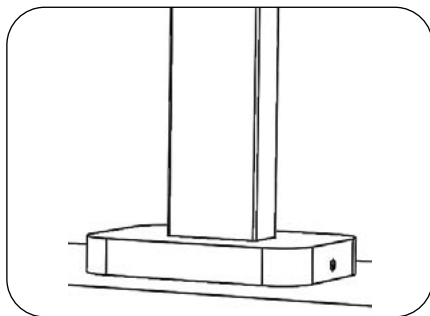

Figure 23
5. Close the cover and attach 3 M3x8 screws to complete the installation of the column (Figure 23).